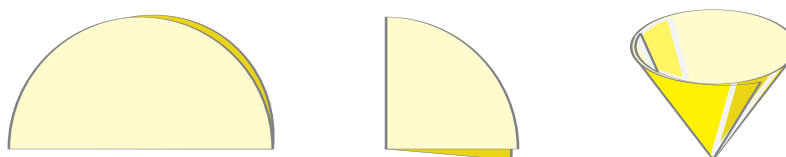

Figure 1
- a. Fold a piece of filter paper into quarters, then separate two layers to make a filter funnel (see Figure 1). Place this filter funnel inside the glass funnel.